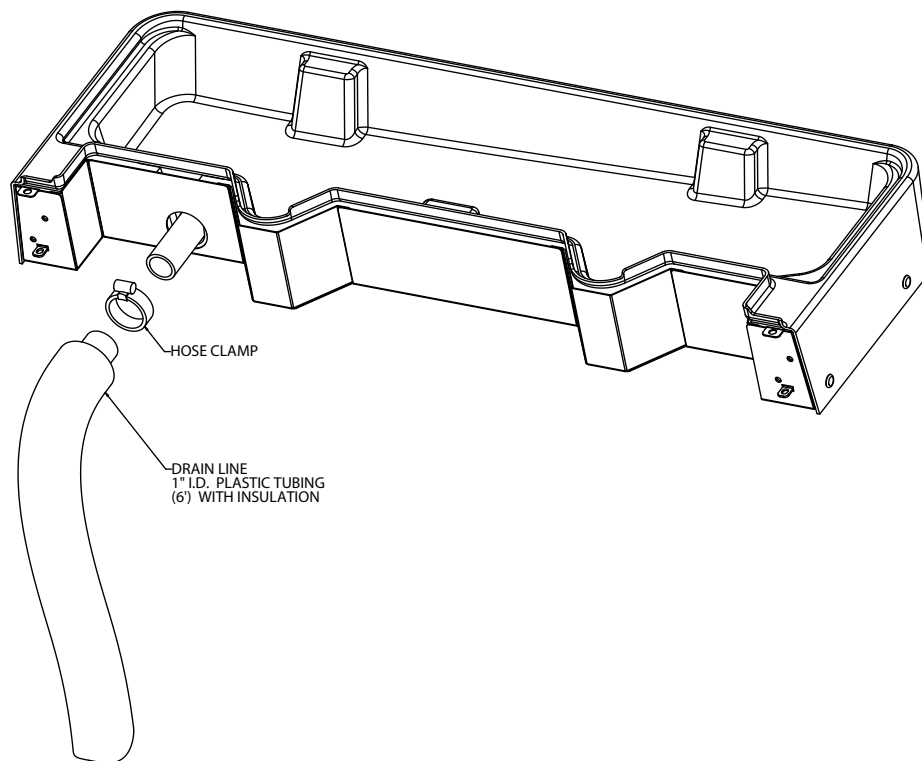

Figure 3.
4. DRIP TRAY DRAIN ASSEMBLY (see Figure 3): Route the drain tube to an open drain with the end of the tube above the "flood" level of the drain. Use the tubing, fittings, clamps, and insulation provided with the Dispenser to assemble the drain. The completed drain line *must* pitch continuously downward and contain no "traps" or improper drainage will result.